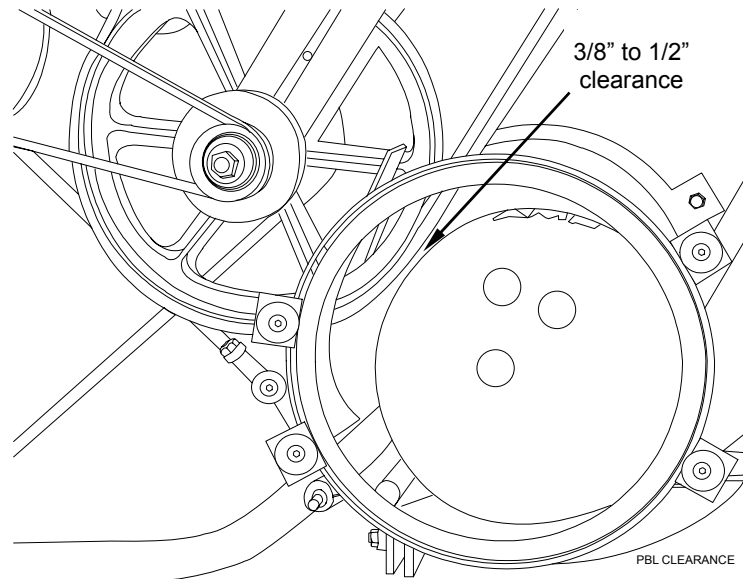

Figure 2-13
1. Place a bowling ball on the lift arm assembly (see Figure 2-13).